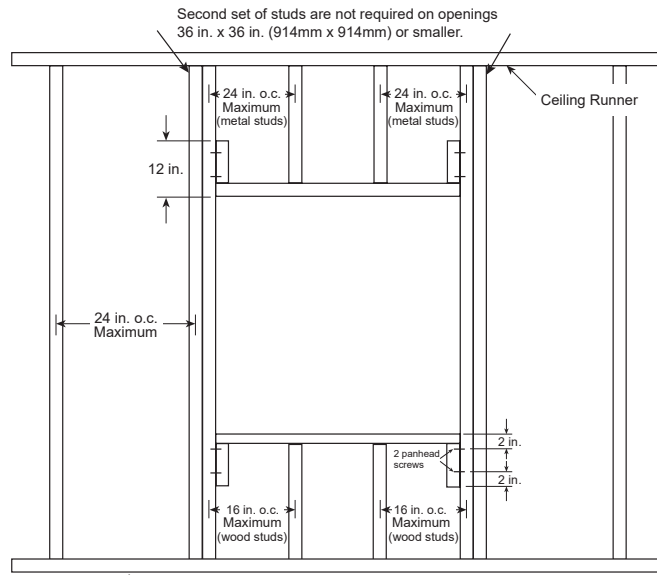

Figure 1
- Frame wall openings as shown below (see Figure 1, 2, and 2A).